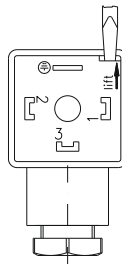

Fig. 6
- ⚡ Open the core ⑧ of the cable socket ② with a screwdriver or similar tool (⇒ Fig. 6).